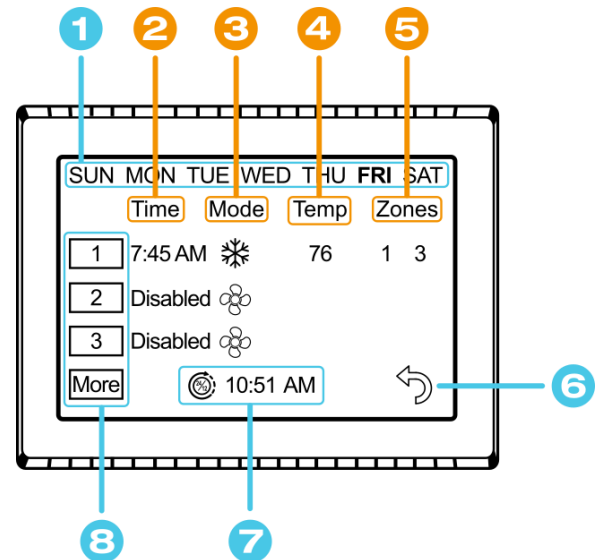
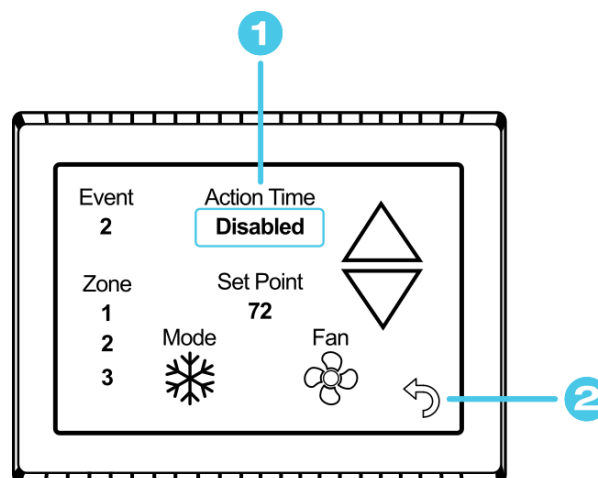
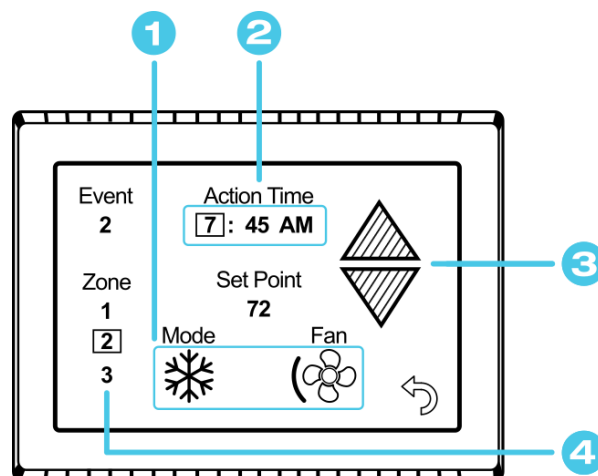

Figure 4 - Main Schedule Screen
Figure 5 - Schedule Edit Screen (Disabled Event)
Figure 6 - Schedule Edit Screen (Enabled Event)
The schedule supports 7 day per week scheduling of events. Events can include changes to the set point or mode of operation for one or more zones. Each numbered row is an event that can be configured. *Figure 4* shows the main schedule screen. Tap the “Schedule” button from the *Settings Screens* to enter.
Events are numbered 1 to 6 along the left side of the screen. Each row is a numbered event. Tap an event to edit it and advance to the schedule edit screen, shown in Figure 5. Tap “More” to see events 4, 5, and 6.
Figure 5 shows the edit screen when an event is tapped as shown in *(8) Scheduled Events* of *Figure 4 - Main Schedule Screen*. The event time on the main schedule screen and Action Time in the edit schedule screen will show disabled until a time is set. Tap “Disabled” (1) at the top of the screen to show a gray box around the Action Time to select it. The up and down arrows change to full color once a selection is made. Use the arrows to make a change to what is selected. Use the back arrow (2) to save any changes and leave the screen.
Figure 6 shows the schedule edit screen once a valid time is set for the event.
1. Tap the edit schedule button as described in the *Schedule – Edit, Enable or Disable* section in settings to enter the main schedule screen, shown by *Figure 4*.
2. Ensure that a valid *(7) System Time* is shown. Tap the day you want to set up a schedule for, then the event you want to edit, all shown by *Figure 4*. Tapping the event will take you to the edit schedule screen, shown by *Figure 5* and *Figure 6*.
5. Tap the back button once again to return to the settings screen. Activate the schedule by pressing the schedule button with the “Enabled/Disabled” subtext as described in the *Schedule – Edit, Enable or Disable* section in settings. When enabled, it may also be noted on the *(11) Info Screen*, under the *Main Screen*.